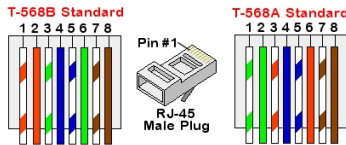

Figure 17: Standard cable wiring
- c. Insert the eight wires into an RJ45 connector (see *Figure 17*).
7. For the switch/router side, use a pre-terminated cable or use a crimper to prepare an RJ45 communication connector: Insert the eight wires into the RJ45 connector in the same order as above (see *Figure 17*).